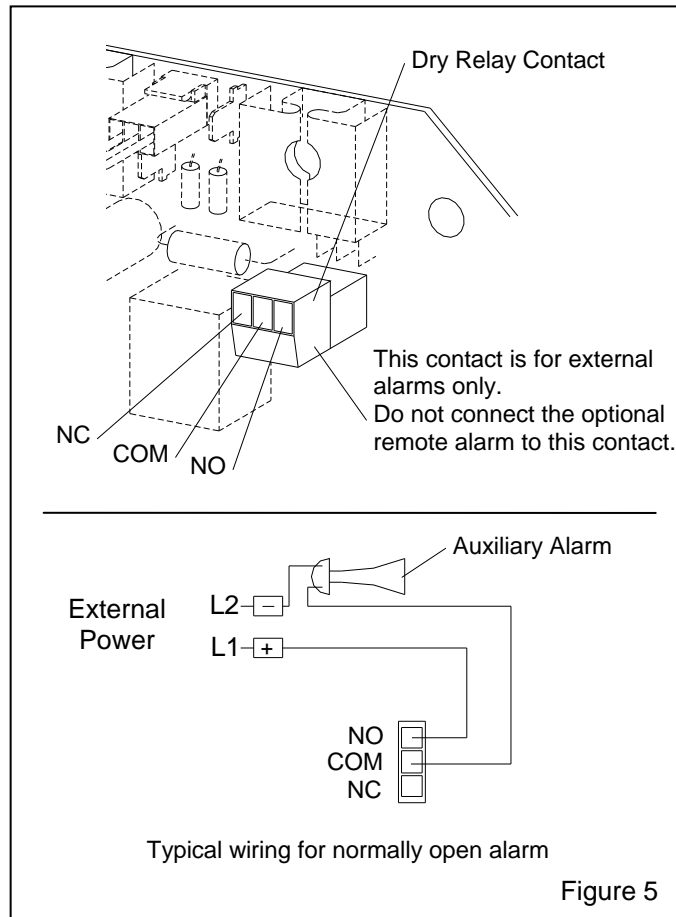

Figure 5
2.5 Connecting External Alarm and Shut-Down Device. Ref. Figure 5.
2.5.1 A relay contact is mounted on the circuit board (Ref. Figure 5), for use with external alarms and shut-down devices. These contacts are rated at 5 amperes. Use the contacts to operate relays for external devices.